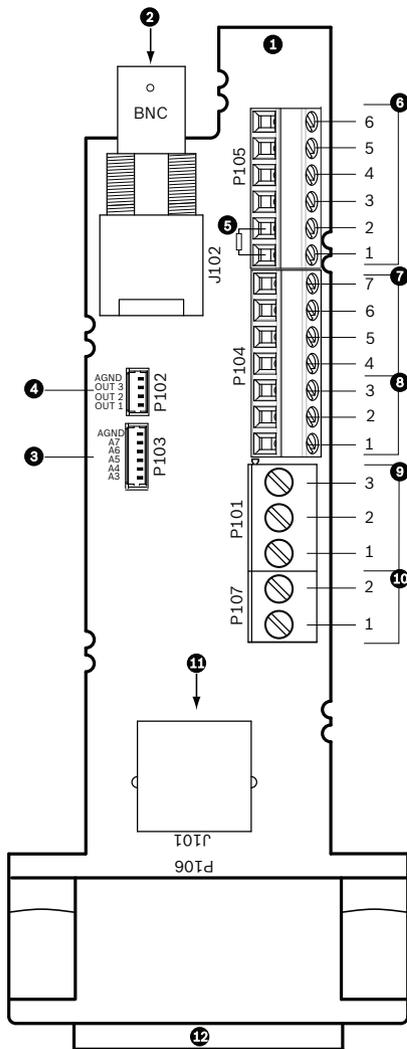

Figure 2.6 Pipe Interface Board Connections
To wire multiple AutoDomes in a series, or “daisy chaining,” you must apply a terminating resistor to the last dome of the series. The Interface Board is supplied with a 100 Ω terminating resistor located between the Biphase terminals C- and C+ (pins 1 and 2) of the P105 control connector (see item 5 in *Figure 2.6* above). Remove the resistor from all but the last AutoDome Interface Board. The maximum number of AutoDomes that can be daisy chained is four (4).
If using the RS485 protocol for control, switch the terminating resistor from the Biphase C+ and C- terminals to the RxD+ and TxD- terminals (pins 4 and 5) of the P105 control connector for the last dome (refer to item 6 in *Figure 2.6* above).
4. Attach the control data in/out wires to their respective terminals on the P105 connector on the Pipe Interface Board. Refer to *Figure 2.6, Page 23*, for an illustration of these connections.